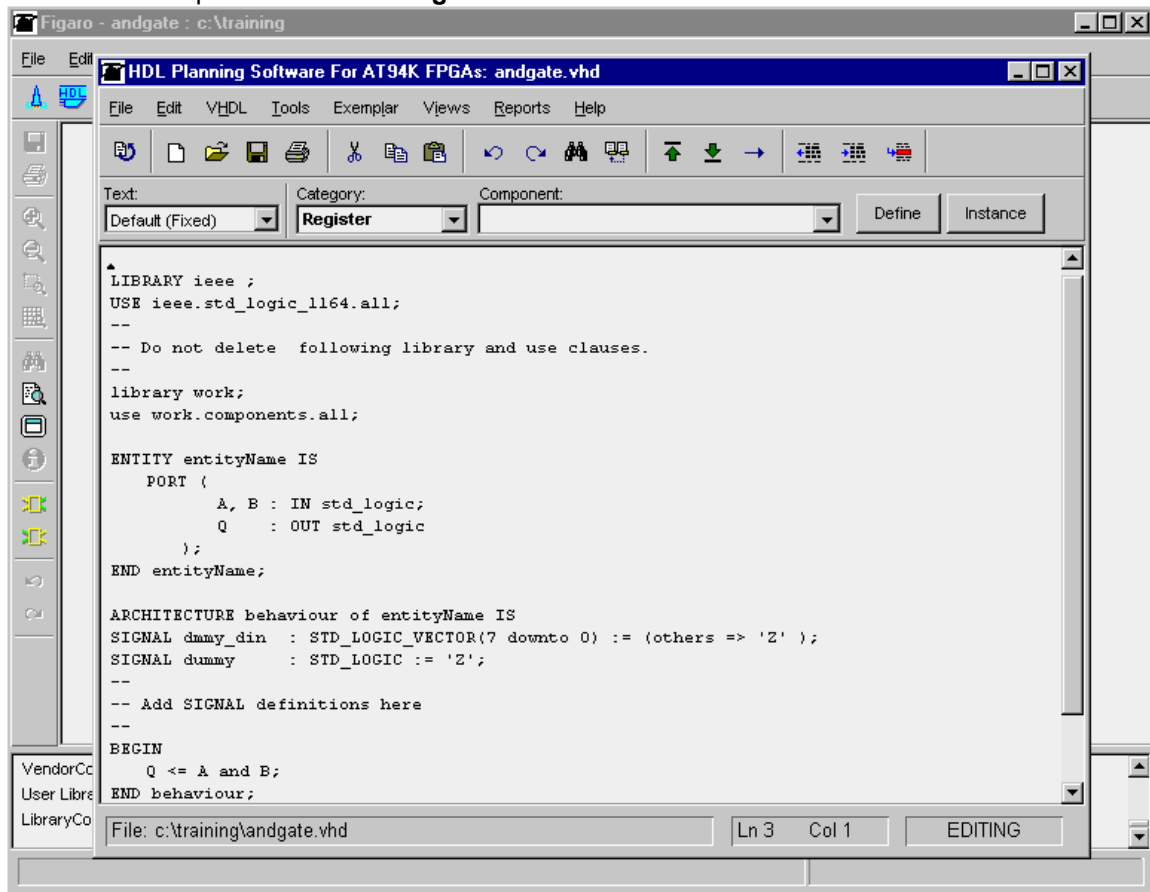

Figure 05 HDLPlanner
2. Edit the template as shown in **Figure 05**.